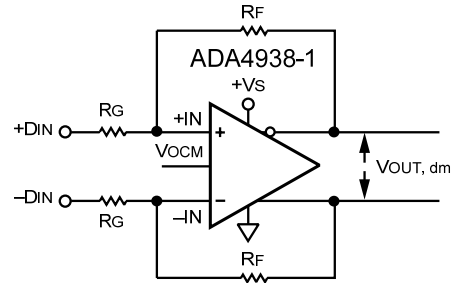

Figure 6. ADA4938-1 Configured for Balanced (Differential) Inputs
The effective input impedance of a circuit depends on whether the amplifier is being driven by a single-ended or differential signal source. For balanced differential input signals, as shown in Figure 6, the input impedance ( $R_{IN, dm}$ ) between the inputs (+DIN and -DIN) is simply  $R_{IN, dm} = 2 \times R_G$ .
**Table 7. Differential Ground-Referenced Input, DC-Coupled; See Figure 6**